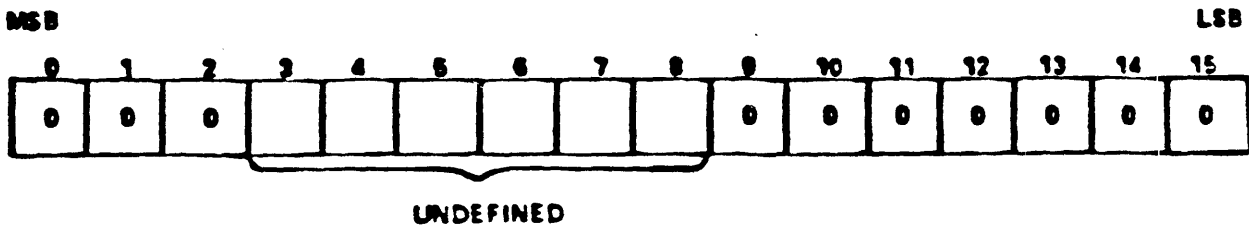

Figure 1-4. Data CRC Test After a DIB Instruction
3. Issue a DIB instruction. In the resultant word, bits 0, 1, 2, and bits 9-15 should be zero (see Figure 1-4).